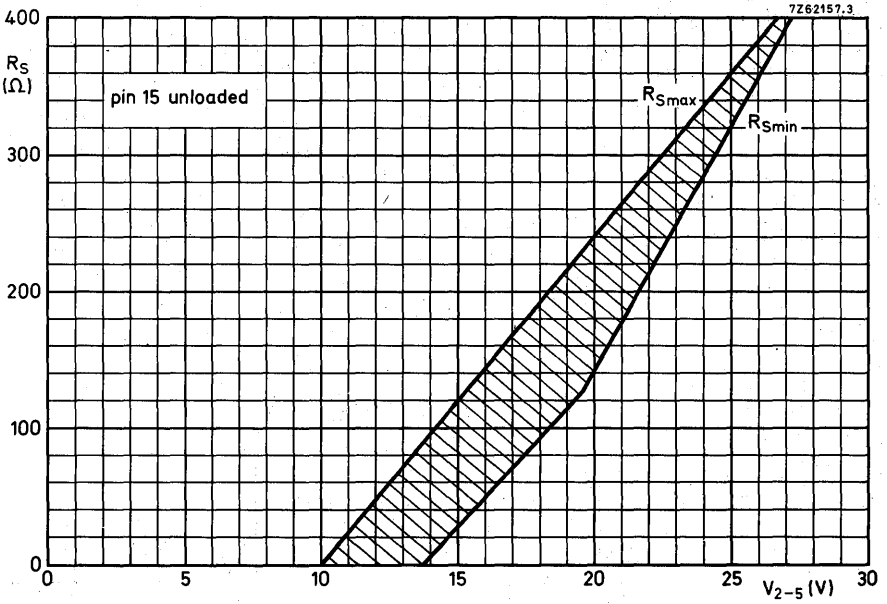

Fig. 4 Maximum and minimum values for the power supply series resistance (R_S).
* Allowable only if the dissipation in the IC is limited by means of a series resistor in the supply (see also Fig. 4).